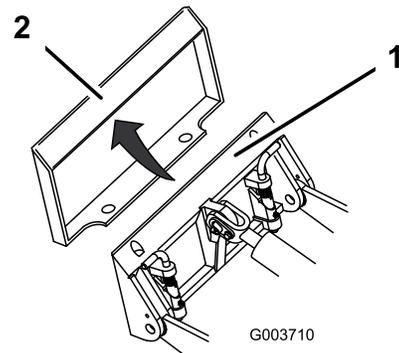

Figure 27
4. Position the mount plate into the upper lip of the attachment receiver plate (Figure 27).